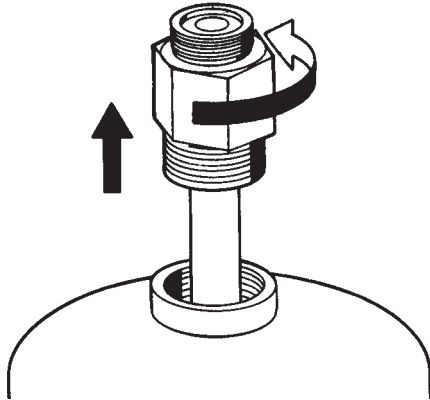

FIGURE 5-5
- a. Remove tank adaptor/tube assembly from tank fill opening. Visually inspect tank adaptor to determine bursting disc is in place and that silver side is away from tank. See Figure 5-5.